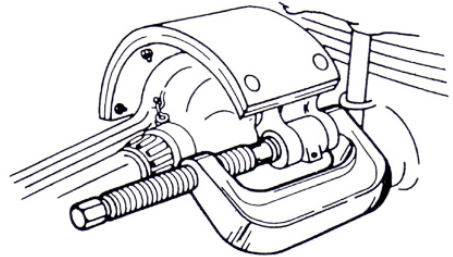

FIGURE 3
2. Position the C-frame press over the brake spider as shown in Figure 3.